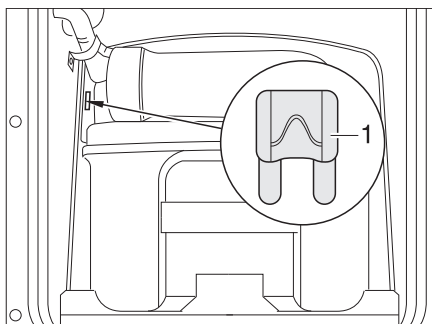
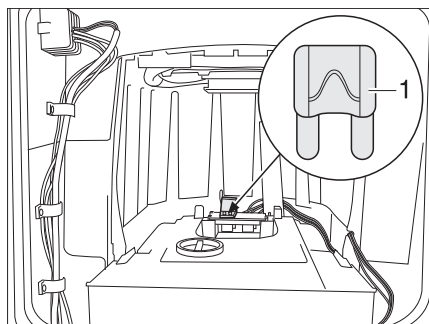

Fig. 316 Fuse for the Thetford toilet
Fig. 317 Fuse for the Thetford toilet (alternative)
- Replace fuse (Fig. 316,1 or Fig. 317,1).